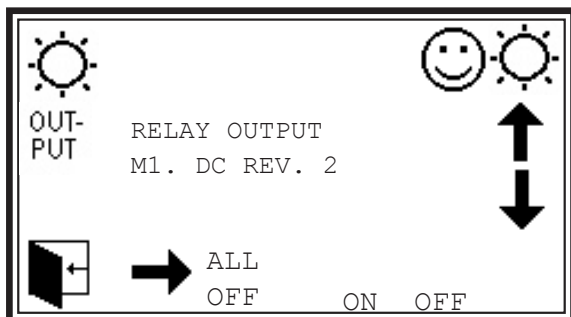

Fig 1
3. Press the right arrow ( Fig 1)